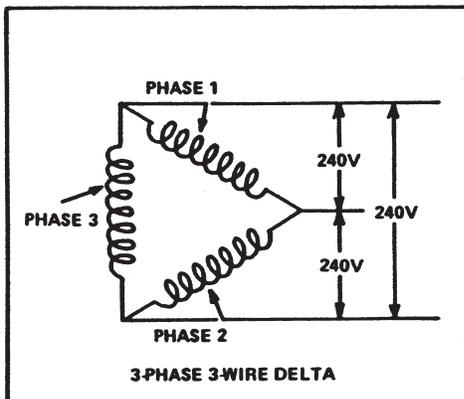
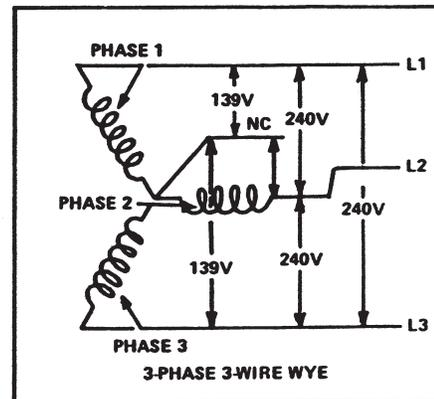

Figure 6 - 3-phase 3-wire delta system
Figure 7 - 3-phase 3-wire wye system
Of the systems we will cover, the one using three windings is most common. These three windings are so placed that three separate voltages are generated. This is called a three-phase generator. The three voltages are equal in value and 120 electrical degrees apart as shown in figure 5. The three windings may be connected in a triangle as in figure 6. This is called a Delta ( $\Delta$ ) connection, or they may be connected in a Wye (Y) as shown in figure 7, with one end of each winding connected. The three-phase system makes more effective use of the iron and copper than a single-phase system, to the extent that in most diesel engine driven generator sets, a single-phase generator will weigh more than a three-phase generator of the same output rating.